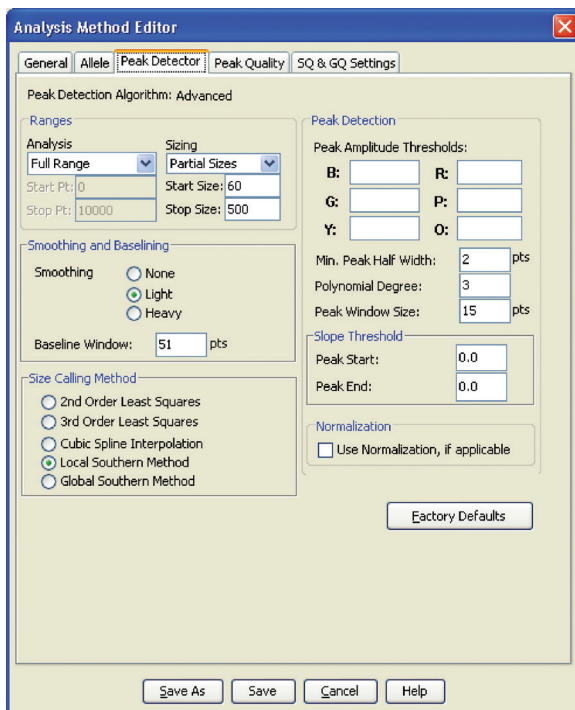

Figure 13. The GeneMapper® ID-X ‘Peak Detector’ tab.
9. Select the ‘Peak Detector’ tab (Figure 13). You will need to optimize these settings. In-house validation should be performed.